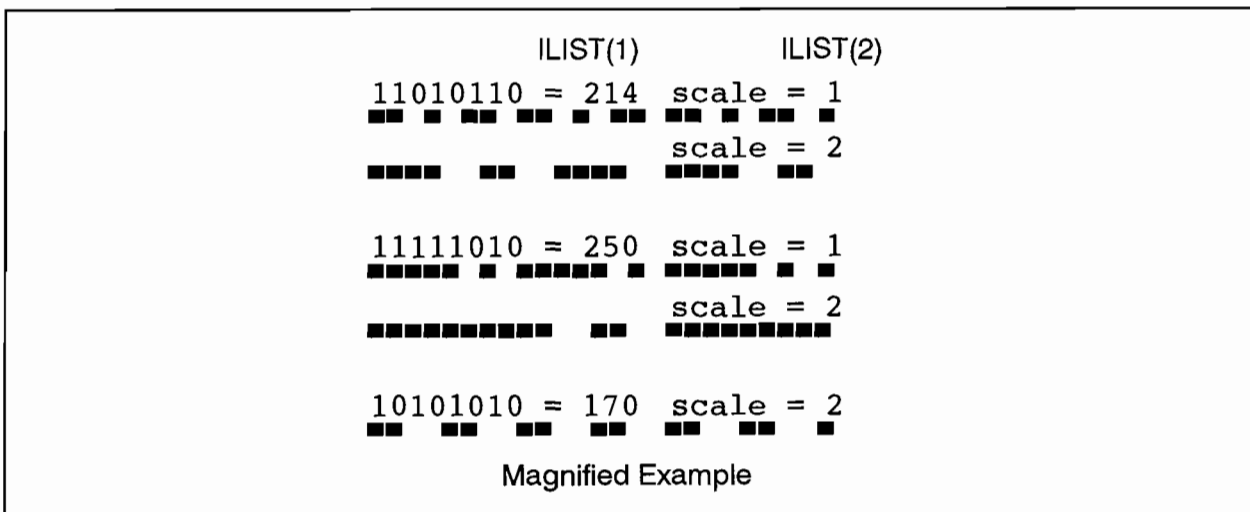

Figure 6. Magnified Examples of User-Defined Line Styles
- 2050 Define line pattern. This allows the user to define the dot pattern used to draw vectors. Once a line pattern is defined, it can be used by setting the line style to 9. See Figure 6 for examples on defining line patterns.